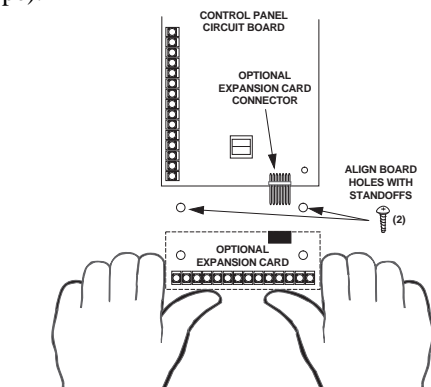

Figure 2. Installing the Card in a Concord Panel
2. Align the card holes with the standoffs and connector pins as shown in Figure 2, 3 or 4 (depending on panel type).